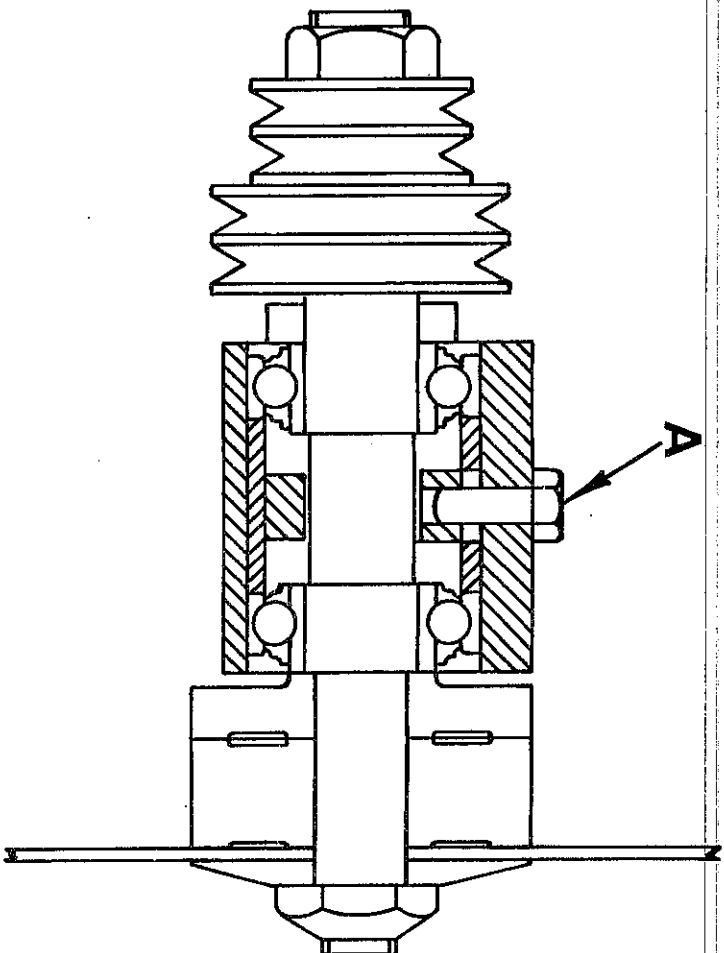

FIG 17
1. Loosen the hexagon head adjuster bolt "A" in FIG 17, and tap spindle (with hide-face hammer) as required, taking care not to damage the threads on spindle ends.